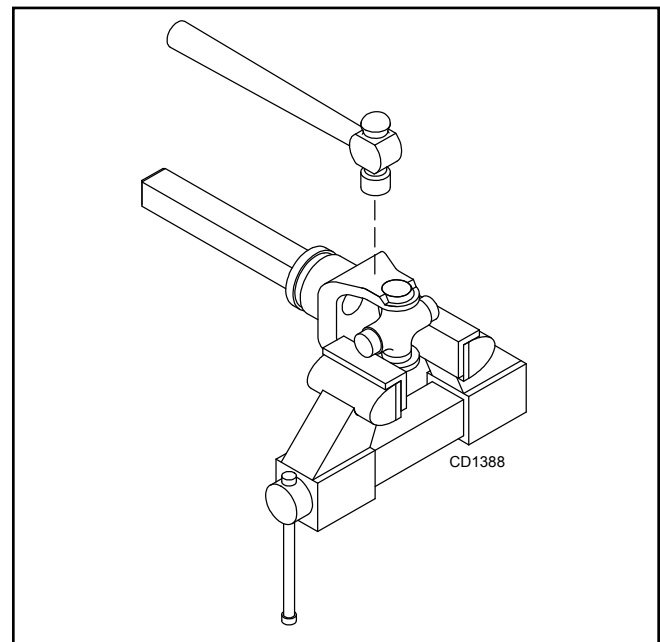

Figure 25. Remove Bearing Cups
4. Place universal cross in vise as shown in Figure 25 and tap on yoke to remove cup. Repeat Step 3 for final removal. Drive remaining cup out with a drift and hammer.